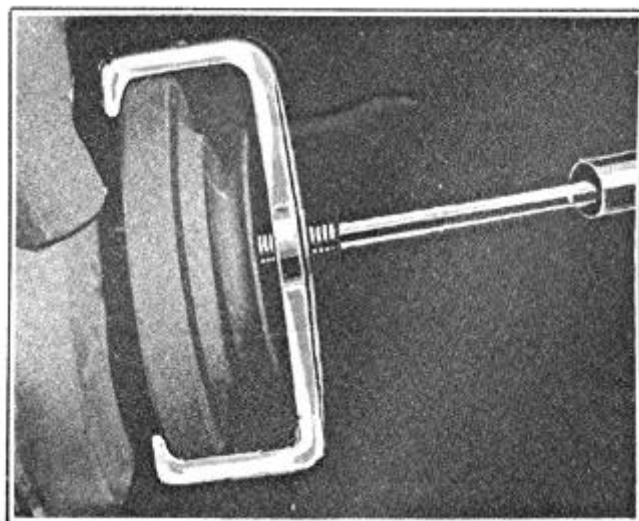

FIGURE 31
4. Remove vibration dampener lock screw, lock and remove vibration dampener using Puller J-676-C, Figure 31.